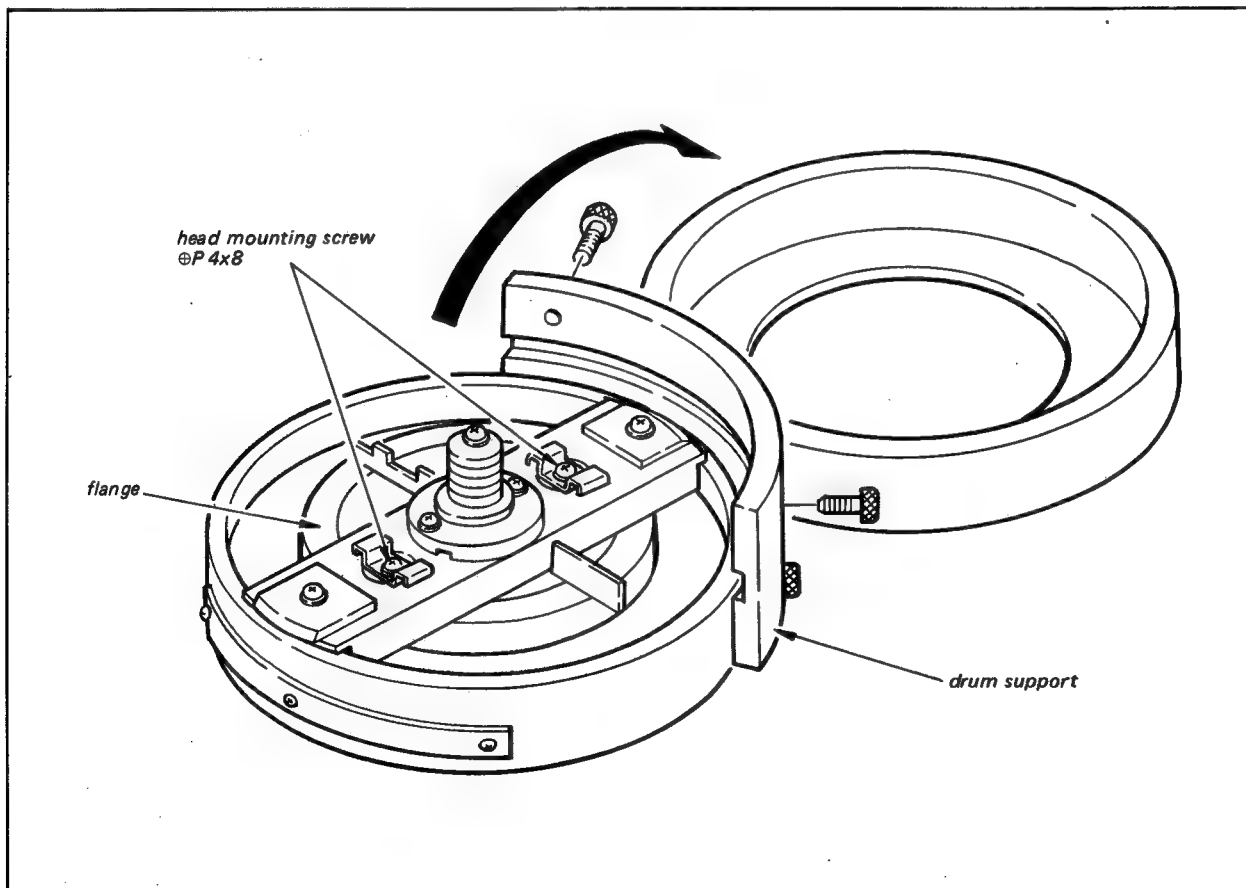

Fig. 7-7 Upper drum removal
6. Carefully lift the top of the drum assembly and fold it back. Place the drum top carefully on the reel panel. See Fig. 7-7.
Position the rotary head platform as shown in Fig. 7-7 by touching the aluminum beam on which the heads are mounted. Slight pressure on the pole pieces can affect pole piece alignment.
7. Hold the video head assembly to keep the platform from rotating. Loosen the two P 4 x 8 screws that hold the head assembly to the platform. See Fig. 7-7. Do not exert too much downward pressure on these screws. Remove the screws and washers.